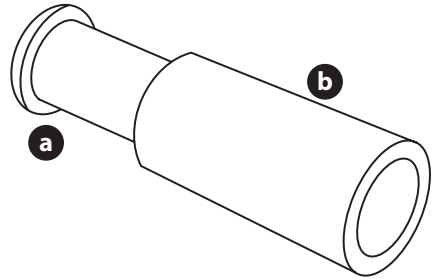

Figure 38
4. Remove the inner filter (a) from the paper element (b) (Figure 38).